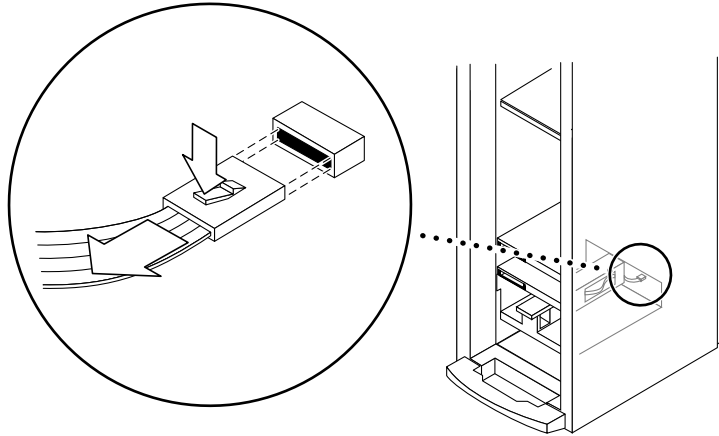

FIGURE 12-28 Disconnecting the LED Cable—Sun Fire 3800 System
7. At the front of the system, disconnect the LED cable (FIGURE 12-28).
10. Reconnect the LED cable (FIGURE 12-28).